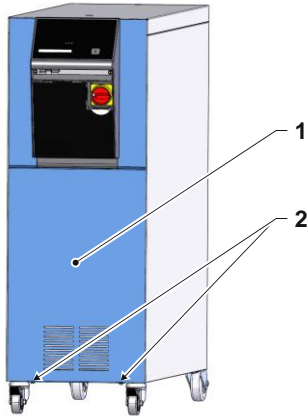

Fig. 1: Remove front plate
- Loosen 2x hexagon head screws (Label 2 → Fig. 1).
- Slightly pull out the front plate (Label 1 → Fig. 1).